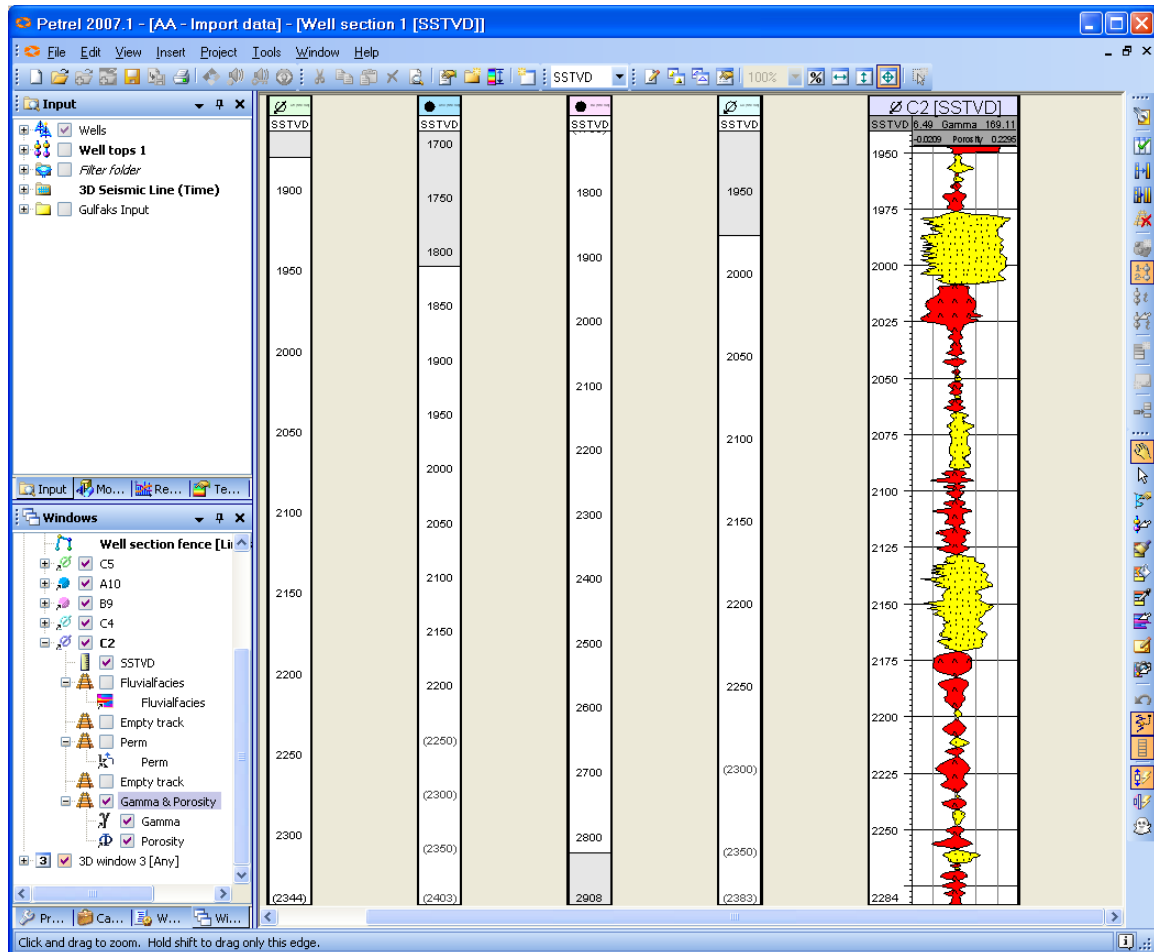

Fig. 10.18: Gamma & Porosity log curves is filled with the specified color & pattern
7. The color and pattern change accordingly as shown in Fig. 10.18.